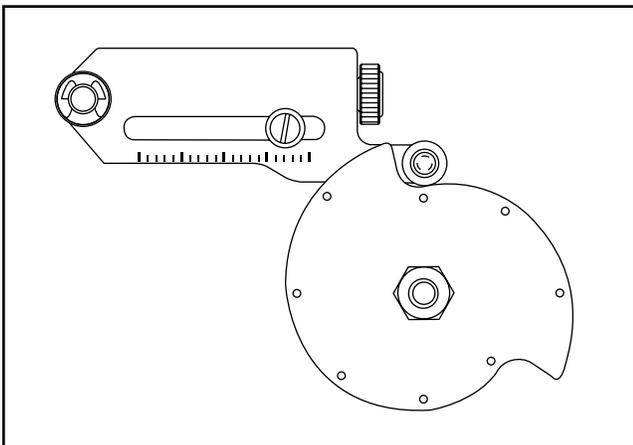

Figure 4: Alignment
4. A) For NAMUR shaft end connections, make sure the round mark on the left hand side of the characteristic curve is lined up with the span arm roller bearing. See Figure 4.